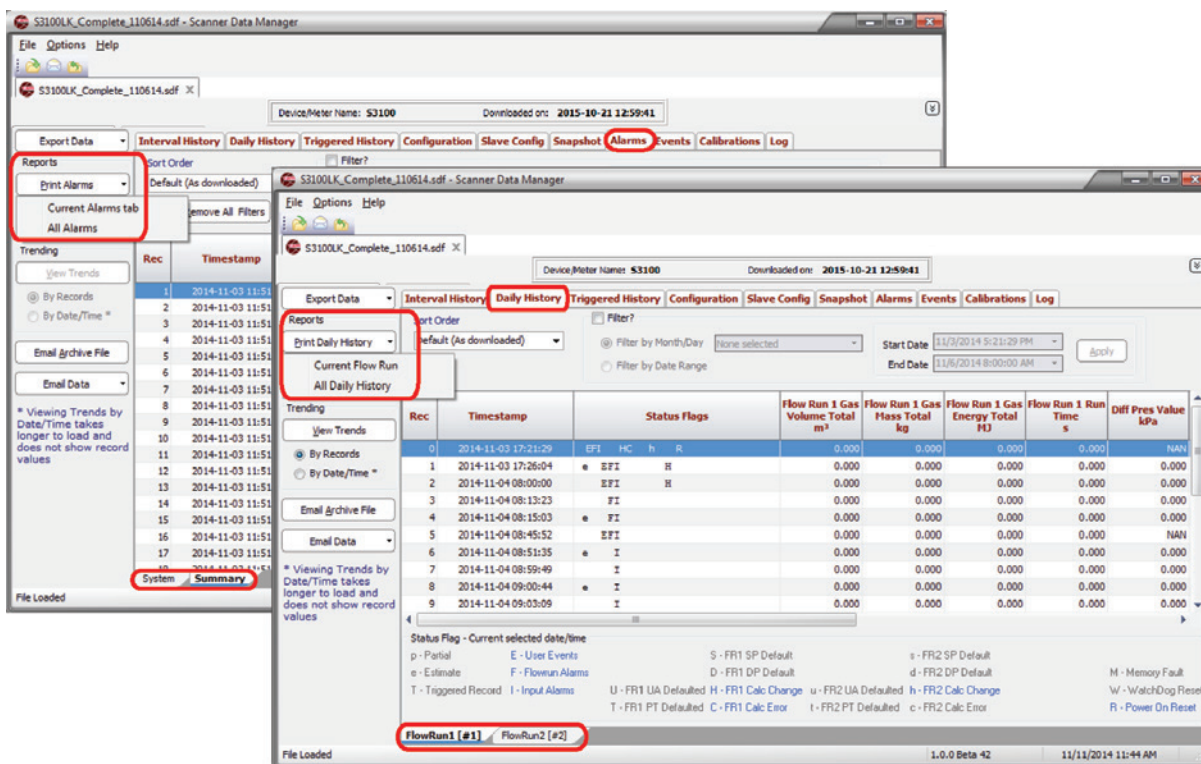

Figure 4.2—Daily History and Alarm tabs showing data divided into multiple tabs
For some log types and reports, archive data is divided into multiple tabs at the bottom of the screen (Figure 4.2, page 45). For example, interval and daily history data are divided by flowruns. Similar divisions exist for alarms, events, and slave device configuration data.
Where a log type or report includes multiple tabs, the user has the option of creating a report for a single “current” tab or for “all” tabs. Log types and report types containing these options are identified by the dropdown arrow on the **Print [Data Type]** button at the left of the screen (Figure 4.2, page 45).
3. Click the **Print [Data Type]** button and select “Current [Data Type]” from the dropdown menu (Figure 4.2, page 45). A preview of the report will appear (see Figure 4.3, page 46).